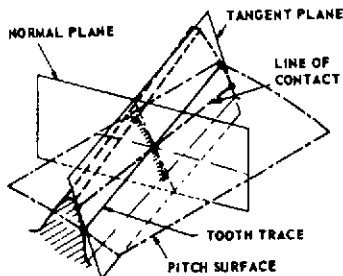

FIGURE 1.8 — NORMAL & TANGENT PLANES
- 1.20 **A Normal Plane** is in general normal to a tooth surface at a pitch point, and perpendicular to the pitch plane. (Figure 1.8)
- 1.21 **A Tangent Plane** is tangent to the tooth surfaces at a point or line of contact. (Figure 1.8)